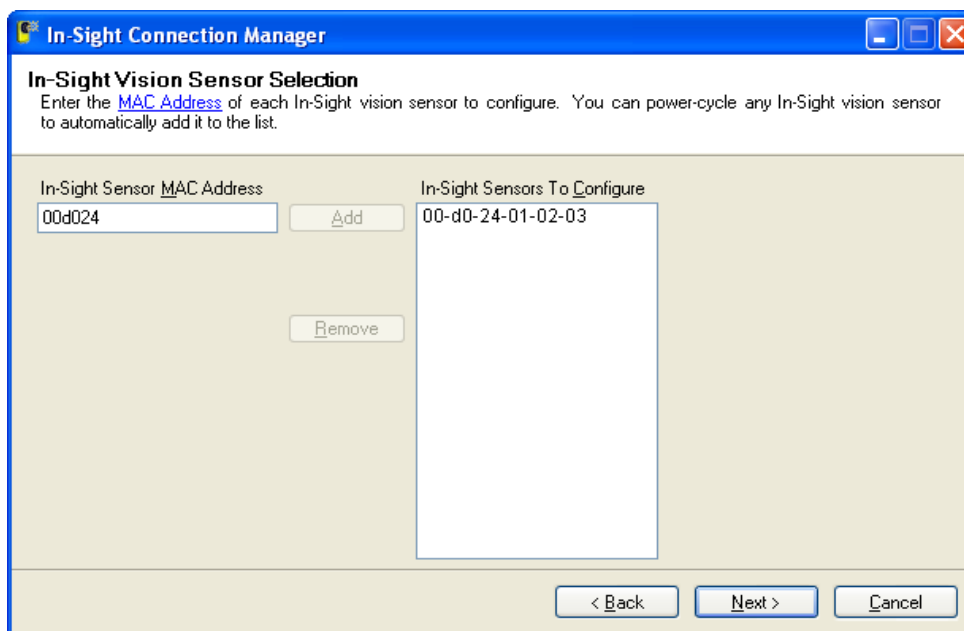

Figure 4-3: In-Sight Vision Sensor Dialog
7. In the left-hand text box, enter the MAC address for the sensor you would like to configure, then click Add (Figure 4-3). Repeat these two steps for any additional sensors you would like to configure. Alternately, you can simply cycle power on any sensors you would like to configure, and the In-Sight Connection Manager will automatically add the corresponding MAC address to the list after the sensors reboot.